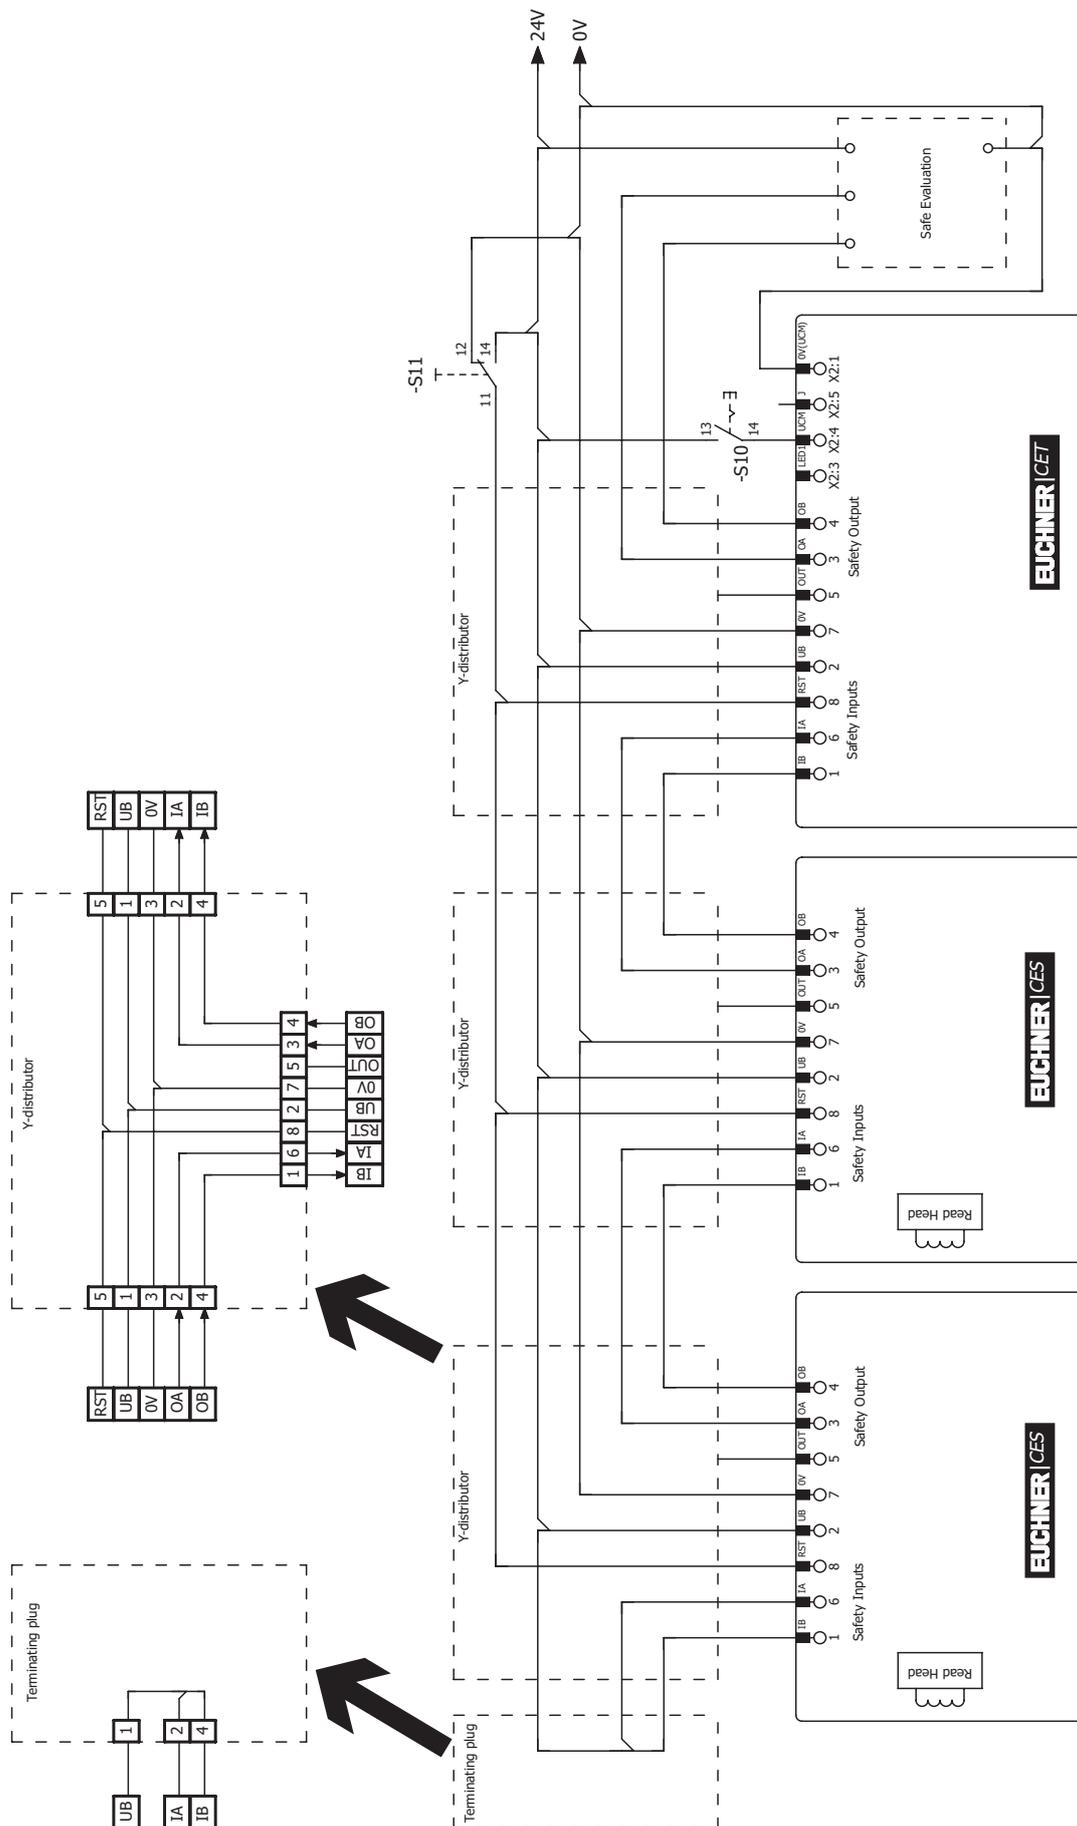

Figure 9: Connection example for operation in a CES-AR switch chain
- › On the use of the CET-AR with feedback loop/start button, this must be in the last position in the switch chain (see *Figure 9 on page 30*).
- › A common signal must be used for all switches in the chain. This can be a changeover switch or the output of a control system. A pushbutton is not suitable, because Reset must always be connected to GND during operation (see switch S11 in *Figure 9 on page 30*).
Input RST must be connected as shown in *Figure 9 on page 30* to permit this.